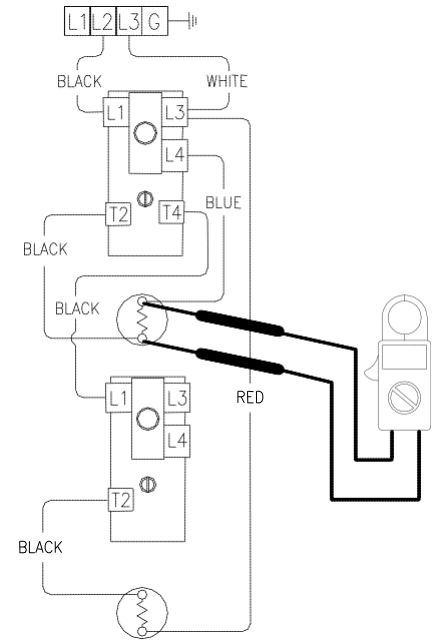

Figure 7
5. Check across element terminals (see Figure 7).